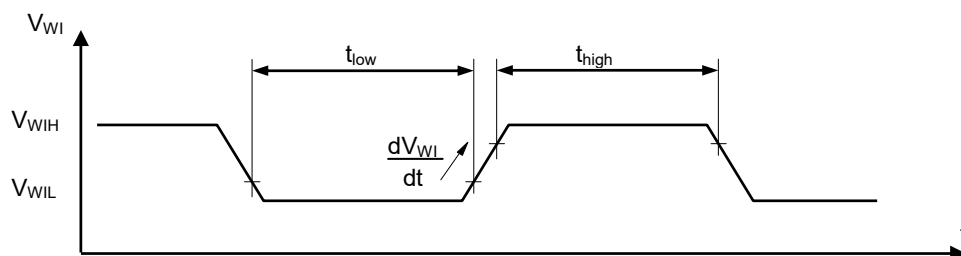

Figure 4
*2. When inputting a rising edge that satisfies the condition of Figure 4 to the WI pin, the watchdog timer detects a trigger.
The signal input from the monitored object by the watchdog timer should satisfy the condition of Figure 4.